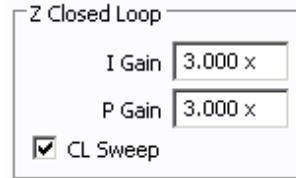

Figure 112 Z closed loop section of Spectroscopy Setup tab with **CL Sweep** check box selected
- 11 If using a calibrated CL scanner, select the **CL Sweep** check box (as shown in Figure 112) in the Z Closed Loop section of the Setup tab.